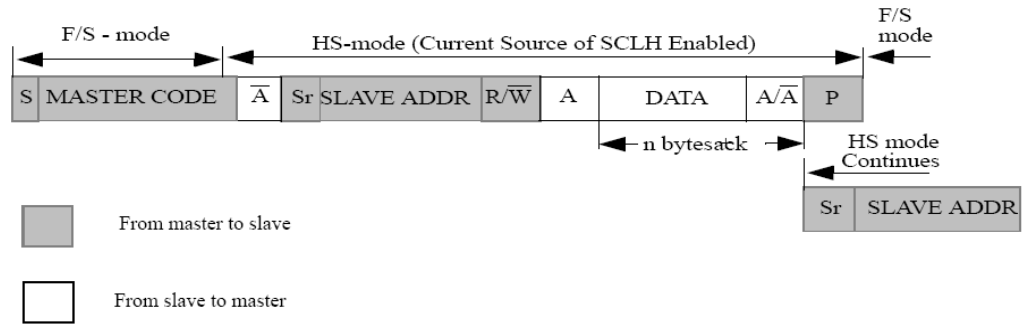
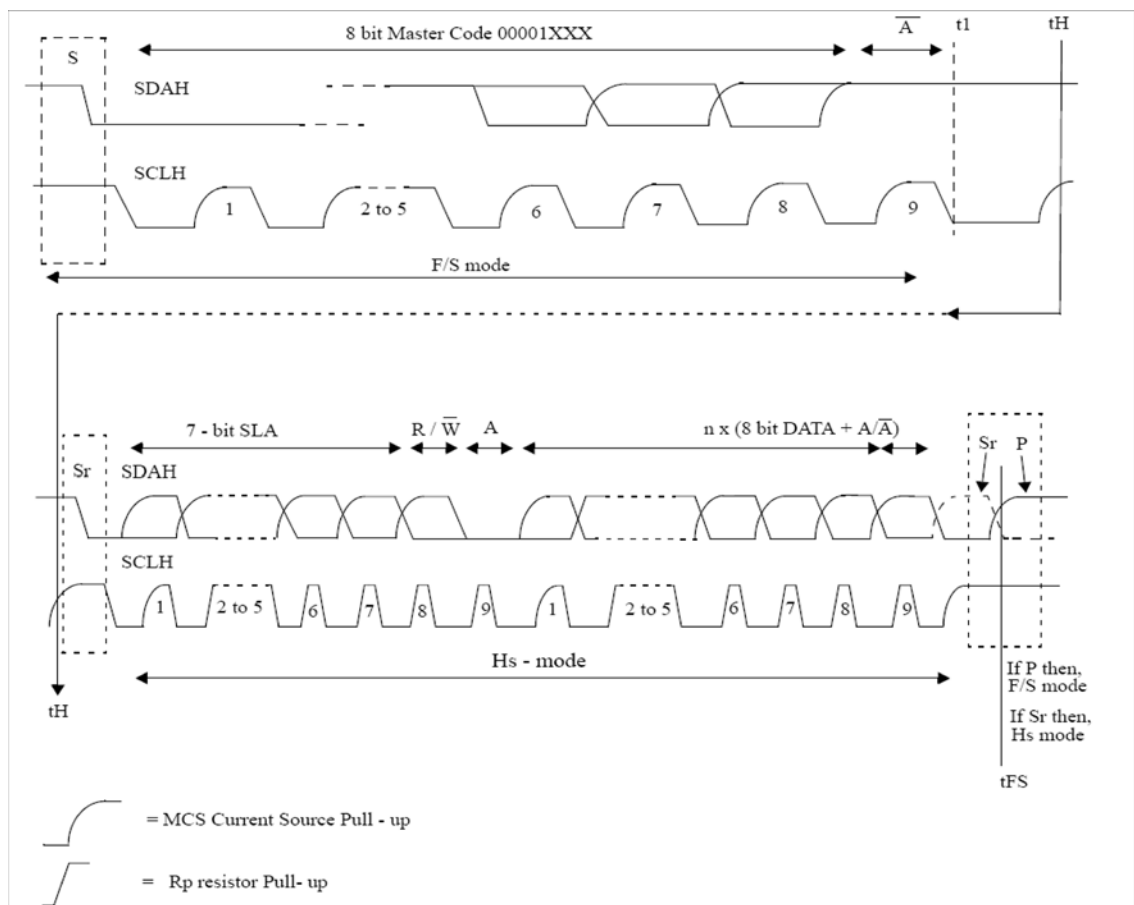

图19-5 HS模式下的数据传输格式
图19-6 高速模式下一个完整的传输
更多的细节信息请参考“图19-5 HS模式下的数据传输格式”以及“图19-6 速模式下一个完整的传输”。HS 主机代码有两个主要功能：
HS-mode master codes are reserved 8-bit codes, which are not used for slave addressing or other purposes. Furthermore, as each master has its own unique master code, up to eight HS-mode masters can be present on the one I2C-bus system (although master code 0000 1000 should be reserved for test and diagnostic purposes). The master code for an I2C module is software programmable. Arbitration and clock synchronization only take place during the transmission of the master code and not-acknowledge bit (A), after which one winning master remains active. The master code indicates to other devices that an HS-mode transfer is to begin and the connected devices must meet the HS-mode specification. As no device is allowed to acknowledge the master code, the master code is followed by a not-acknowledge (A). After the not-acknowledge bit (A), and the SCL line has been pulled-up to a HIGH level, the active master switches to HS-mode and enables (at time t_H , refer to (see **Figure 19-6 A Complet HS mode transfer**)) the current-source pull-up circuit for the SCL signal. As other devices can delay the serial transfer before t_H by stretching the LOW period of the SCL signal, the active master will enable its current-source pull-up circuit when all devices have released the SCL line and the SCL signal has reached a HIGH level, thus speeding up the last part of the rise time of the SCL signal. The active master then sends a repeated START condition (Sr)